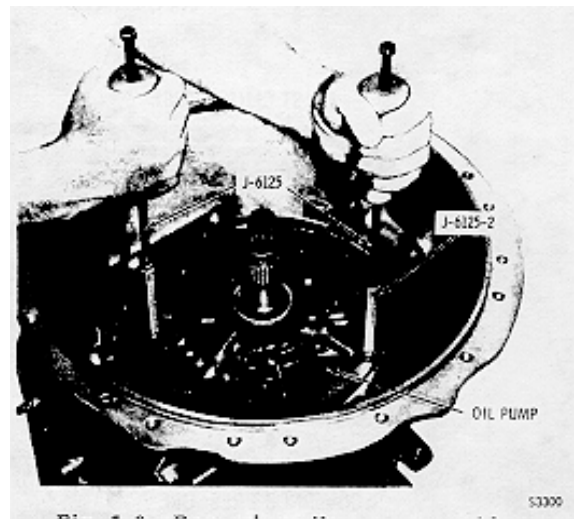

Fig. 5-9. Removing oil pump assembly
(1) Remove nine bolts and washers that retain the front support. Discard washers.
(2) Remove two bolts and washers (approximately 1800 apart) from the oil pump body (fig. 5-9).
(3) Install slide hammers J-6125 into the holes from which the two bolts (step (2), above) were removed.
(4) Hammer upward with the slide hammers to loosen the oil pump assembly (fig. 5-9). When free, lift the oil pump assembly out of the transmission case.